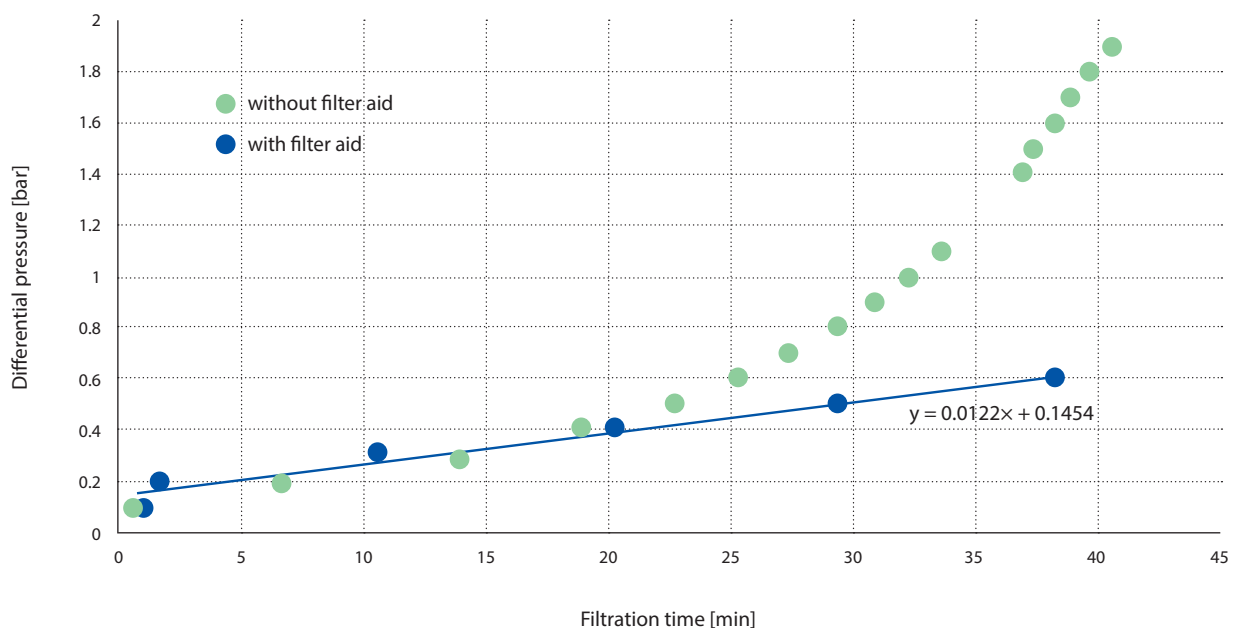

Figure 2: Increase of differential pressure during filtration without and with the addition of filter aid
Why is the use of filter aid necessary? Standard depth filters can no longer handle the higher and higher cell titers ($>10^8$ cells/ml) in fermentation broths. By using a filter aid such as diatomaceous earth (e.g. Celpure®) the filtration volume per filter area can be increased up to 4-fold (see figure 2). The filter aid is suspended in the fermentation broth or in buffer/water and then washed onto the FILTRODISC™ BIO SD modules to form a filter cake. When doing this, the filter sheet (e.g. PURAFIX® CH 09P) in the modules, themselves function not as filters, but merely as a support for the filter cake, which is where the actual slurry removal takes place.
1. *Extension of filtration volume per area:* Due to the formation of the filter cake the filtration volume per filter area can be extended greatly, in some cases up to 4-fold (figure 2).